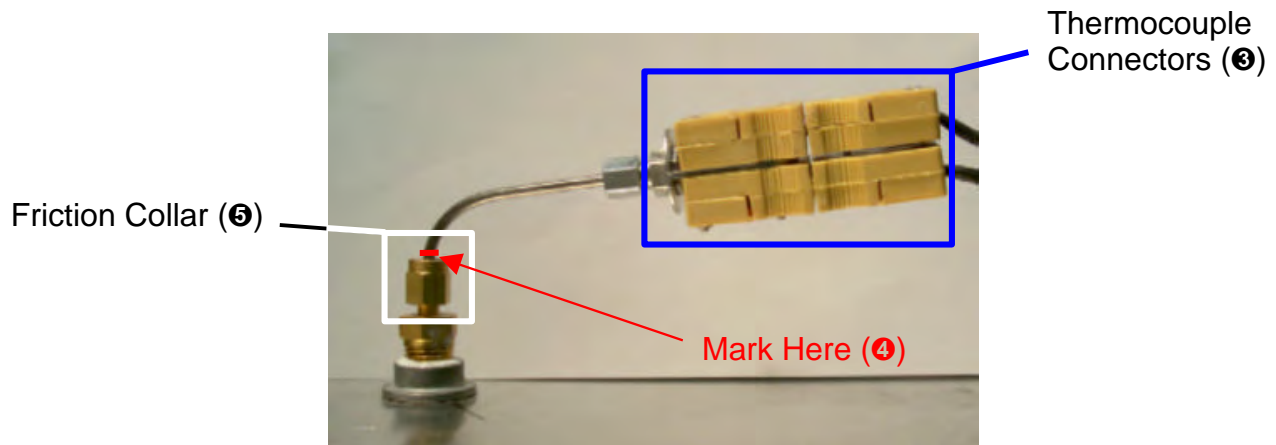

Figure 7-14: Thermocouple Installed (Overtemperature T/C Shown)
- ❶ Remove power from the RTC Furnace.
- ❷ Remove the side and top covers of the furnace cabinet as required.
- ❸ Disconnect the thermocouple connectors; See Figure 7-14 below.
- ❹ Mark the junction between the thermocouple probe and collar.
- ❺ Unscrew the friction collar just above the surface of the chamber.
- ❻ Remove the thermocouple probe.